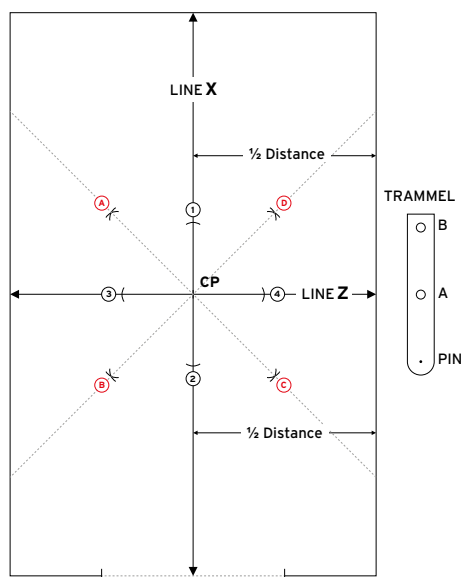

Figure 5.3
- ▶ Find the centre of line X and mark the Centre Point (CP).
5.6.3 Setting out and installation for diagonal tiling (Refer to Figure 5.3)
- ▶ Mark a centre line as described earlier (figure 5.3).